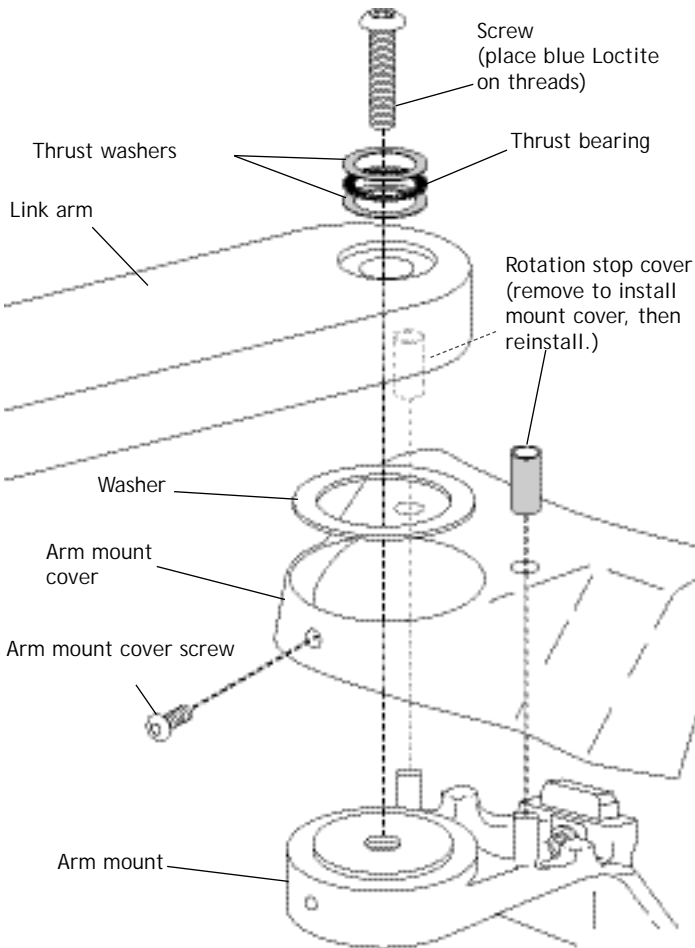

Figure 9
2. Install the link arm to the arm mount as shown in Figure 9.